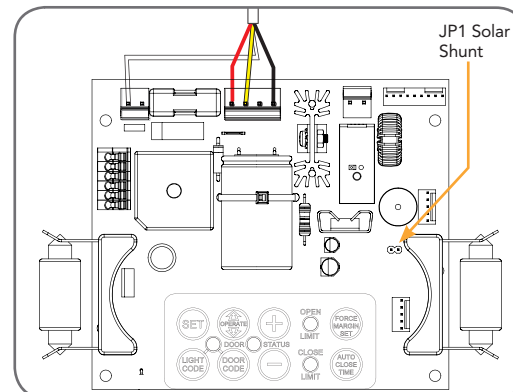

Fig 14
5. Plug the Charger Board's three wire harness (red/yellow/black) into the control board's "SBY-3" connector (Fig. 14).
6. Plug the Charger Board's one wire harness (white) into the control board's "24vac in" connector on (Fig. 14).
7. Plug the solar shunt (supplied) onto the control board's "J13" connector (Fig. 14).